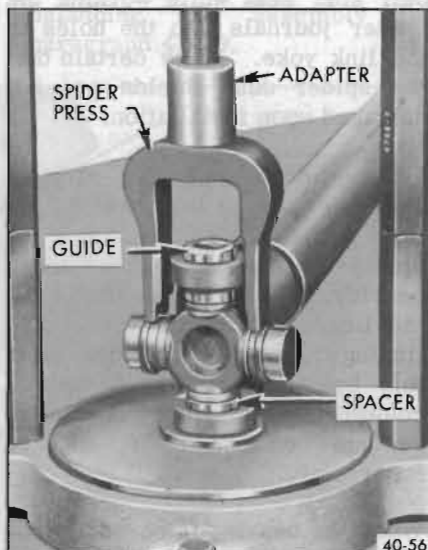

Figure 40-70—Removing Bearing with Guide and Spacer in Place
6. Install Spacer J-9522-5 adjacent to the bearing as in Step 4 and remove the bearing. See Figure 40-70.